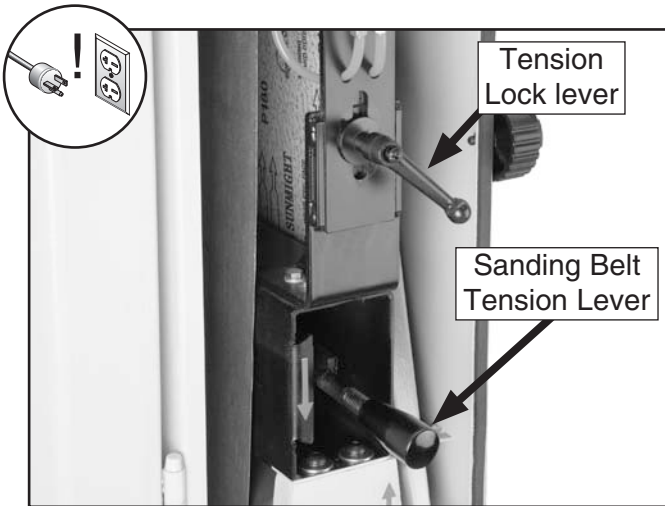

Figure 19. Sanding belt tension controls.
3. Loosen the tension lock lever shown in **Figure 19**.